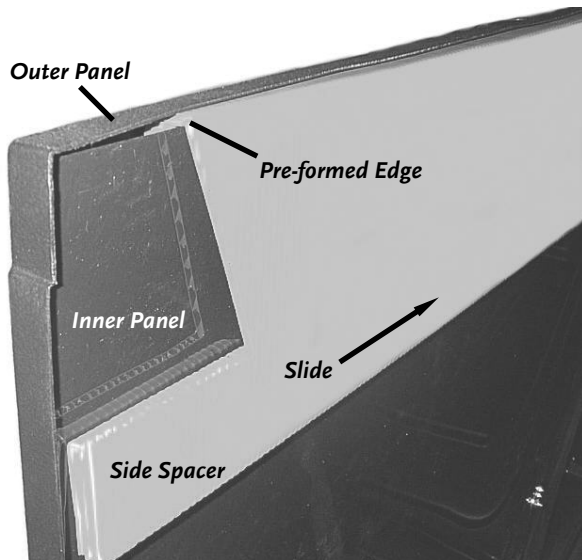

Figure 8
1. Remove the Rear Panel of the Collector Box by releasing the six (6) Flexible Latches and lift it off the pins protruding on the top corners.
3. Install a side Bagger Spacer on the left Side Panel of the Collector Box by inserting the formed edge of the Spacer in between the inner and outer wall of the left Side Panel of the Collector Box (**Figure 8**).
Tip: Raise the Centrifugal Separator (top) just enough and start at the back of the Collector Box left Side Panel, hooking the formed edge of the Bagger Spacer over the inner panel and in between the Outer Panel and Inner Panel, and sliding the Spacer along toward the front until the support is completely inside the Collector Box (**Figure 8**).
8. Install a Bagger Spacer Tube at the rear of the Collector Box by raising the Centrifugal Separator (top) just enough to insert it into the Pre-Formed Notches in the left and right Bagger Spacers. Again, note the shape of the Spacer Tube; it will only go in one way. The outside surface of the Spacer Tube must be perpendicular to the Top (**Figure 8**).
9. Re-hook the Centrifugal Separator (top) Latches and replace the Rear Panel by re-hanging it on the pins protruding on the top corners, and then re-hook the six (6) Flexible Latches